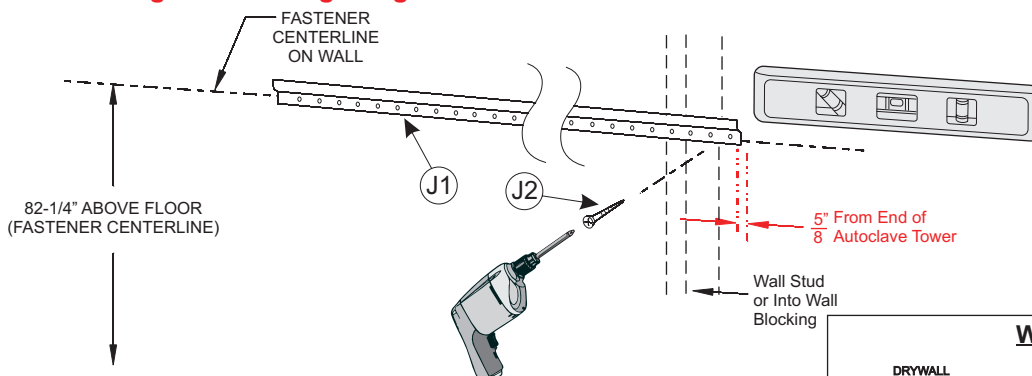
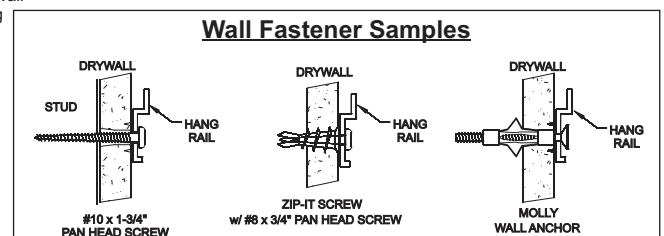

Figure 4a
Figure 4b
Measure up 82-1/4" from the floor and mark a level line. The centerline represents the Hang Rail (J1) hole mounting centerline (see Figure 4a). Position the Hang Rail (J1) 5/8" from the side of Autoclave Tower (B). Secure J1 to wall using the appropriate wall fasteners for the type of wall construction (J2) (see Figure 4b for common types). It is important to hit as many wall studs as possible if no Wall Blocking is present.